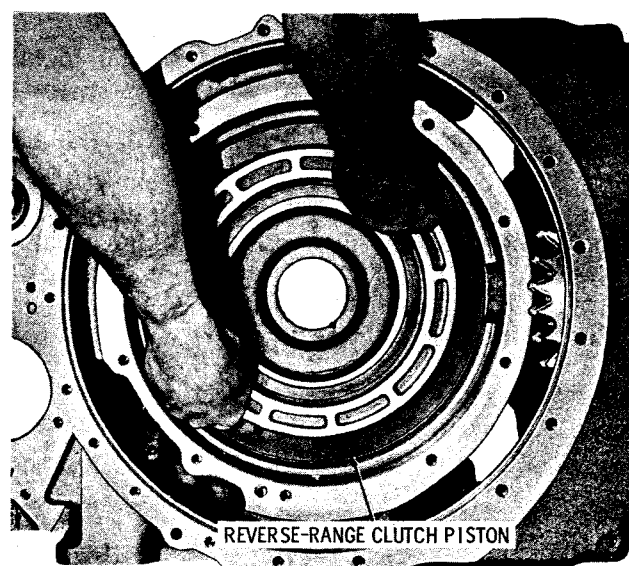

Fig. 5-31. Removing reverse-range clutch piston
(3) Remove the reverse-range clutch piston from its bore in the transmission housing (fig. 5-31). Do not remove sealrings from the reverse-range piston unless replacement is necessary. If necessary, refer to paragraph 6-19 for clutch piston rebuild instructions.